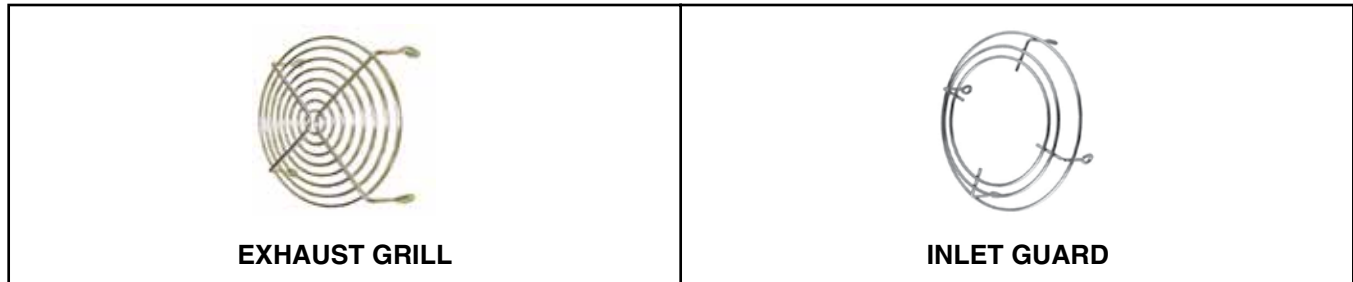

Figure 12. Option CC6 Components
- Factory-supplied components for installation of the horizontal vent kit are listed in Table 8 and shown in Figure 12.